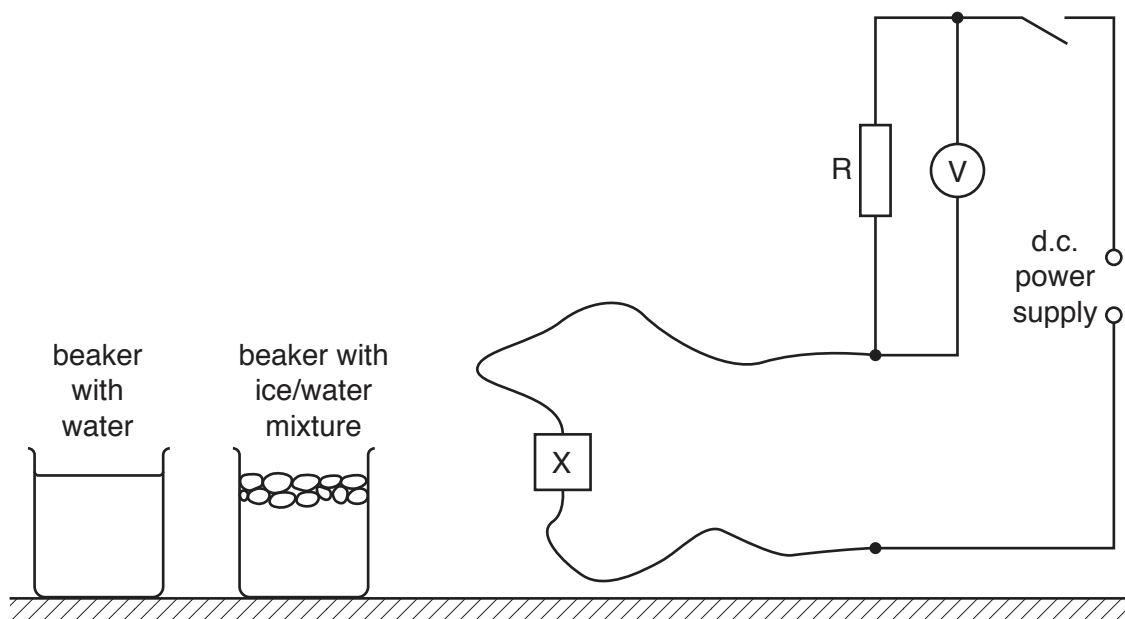

Fig. 2.1
5. The Supervisor should set up the apparatus as shown in Fig. 2.1. Supervisors should check that when the thermistor is placed in the beaker of water at room temperature the reading on the voltmeter is in the region of 4 V. If a different thermistor to that described in Note 2 is used then the value of  $R$  will need to be changed. Generally a larger value of  $R$  will give a larger reading on the voltmeter.
- ensure that the apparatus has been restored to its original state as in Fig. 2.1. If cells are used in the circuit, they should be checked and replaced, if necessary.